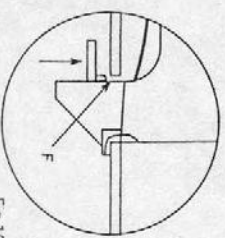

Fig. 10
3. Verify that there is on clearance between the key fulcrum and portion E in the chassis. Attach the stopper (Fig. 10) on the portion F.